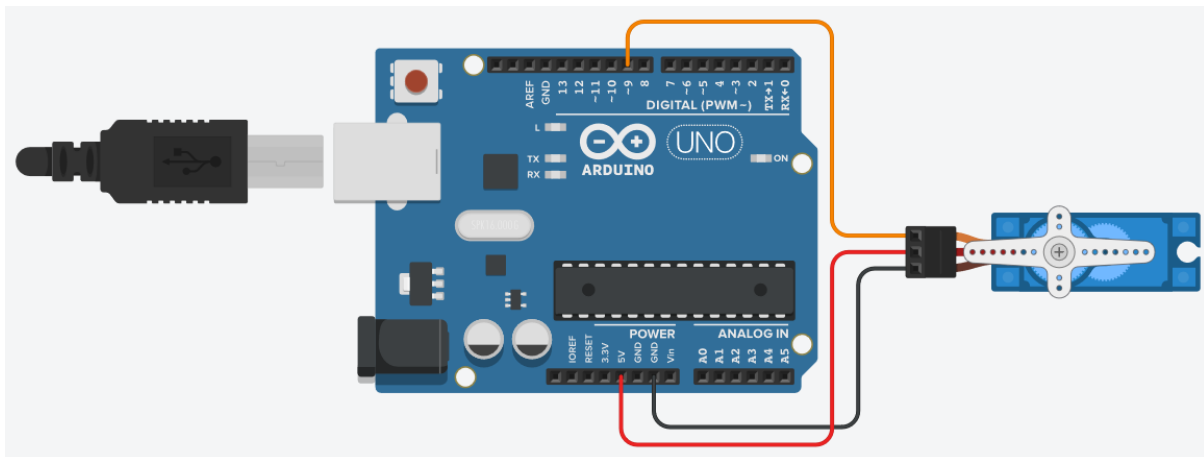

Figure 4. Circuit diagram for Exercise 2.
1. Connect the circuit shown in Figure 4